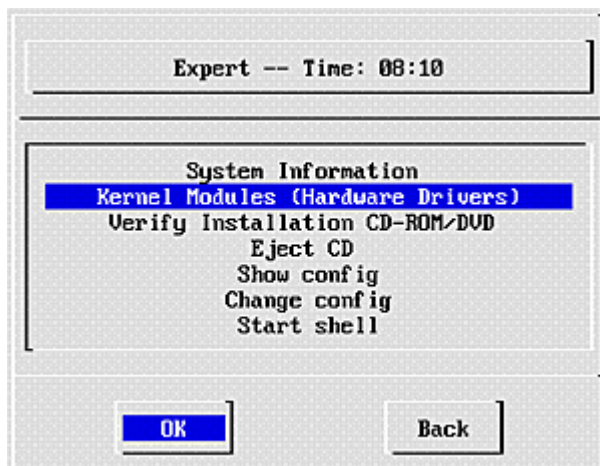

Figure C-7 Expert Menu
11. The Expert menu (Figure C-7) is displayed. Click **Back**.